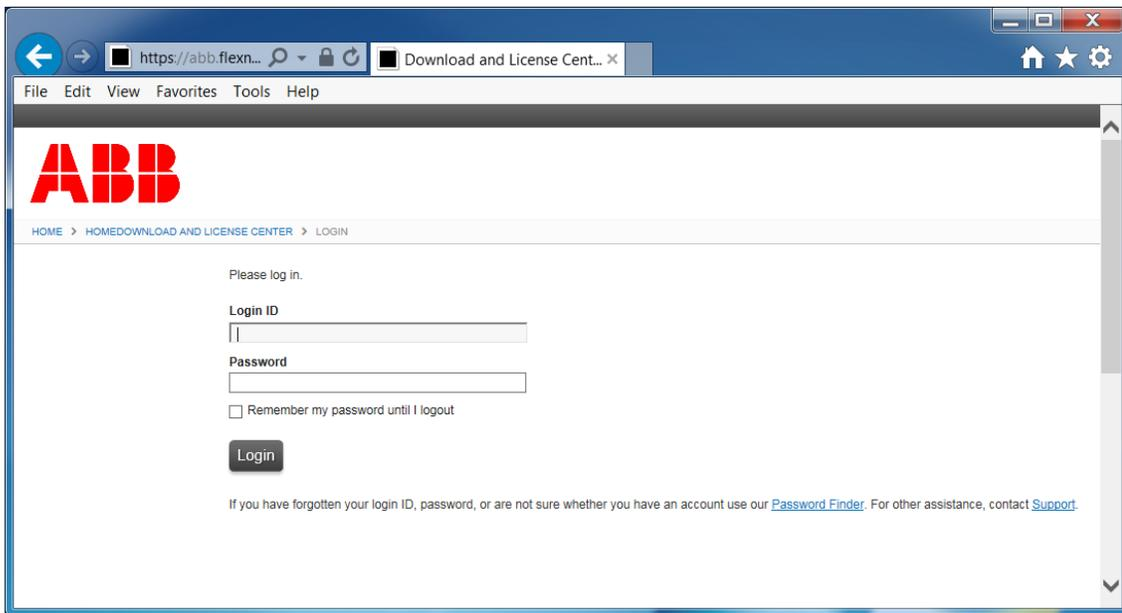

Figure 6: Customer portal login screen
- 2) At the login screen (Figure 6), type the login credentials: